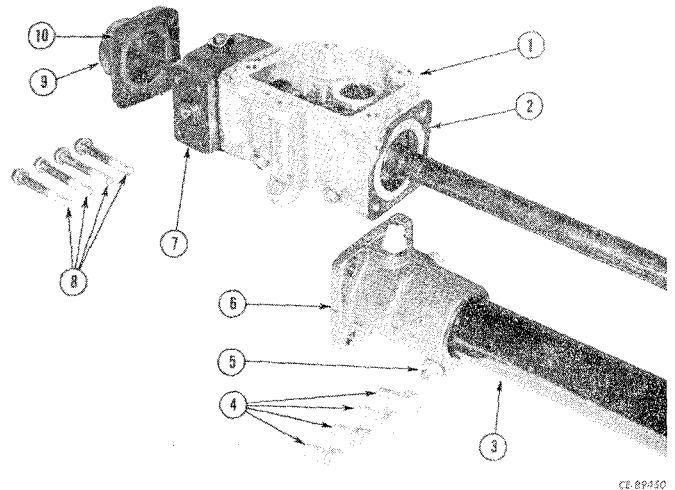

Figure 8-16
Remove cap screws (4, Fig. 8-16), upper cover (6), gasket (2) and jacket (3) from housing (1). Remove nut and cap screw (5) and separate jacket from cover. Remove bearing from steering wheel end of jacket. Remove cap screws (8), gasket (10) and end cover assembly (9) from actuator housing (7). Discard gaskets (2, 10).